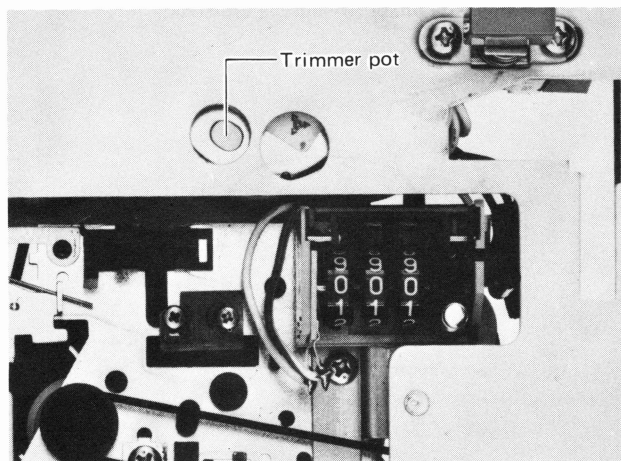

Fig. 5-6-2
- 3) Adjust the trim pot in the capstan motor with a small flat blade screwdriver. Fig. 5-6-2